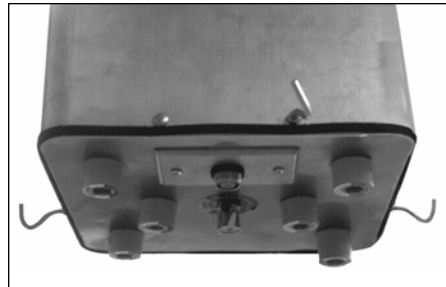

Figure 1
2. Remove the eight cover plate screws from the ceiling column base. If the column is a manually operated (retractable model), the operating handle must be removed. Remove the two flange screws and loosen the Allen screw on the actuator rod to remove the handle (Figure 1). Vacuum operated retractable columns require no handle removal.